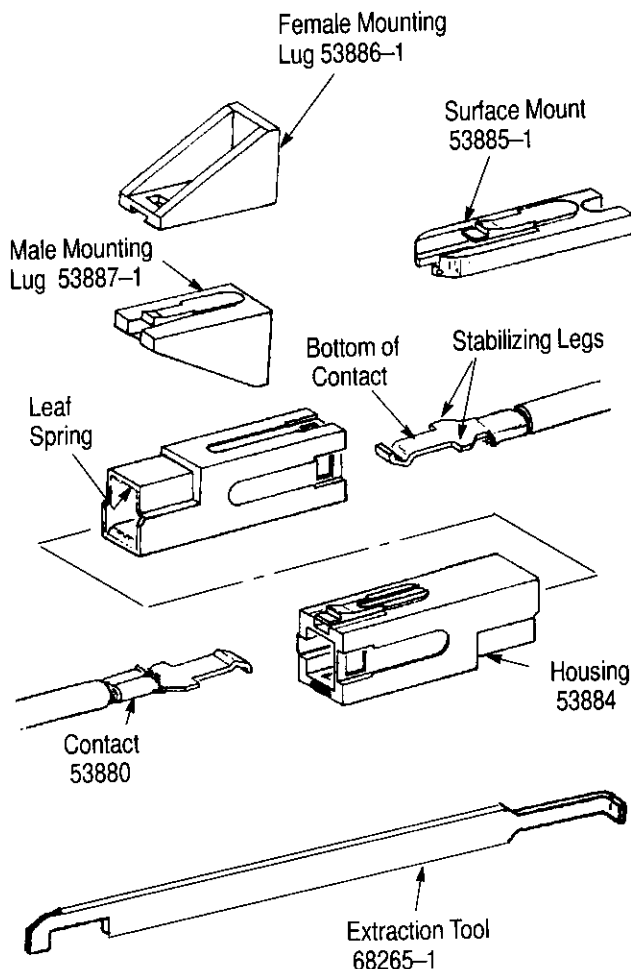

Figure 1
1. Orient crimped contact with housing so bottom of contact will face leaf spring inside housing (see Figure 1).